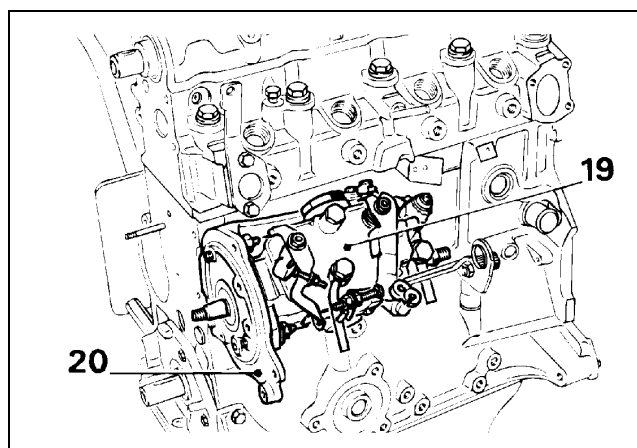

Figure 58b
3. Remove the injection pump (Fig. 58b, Item 19).